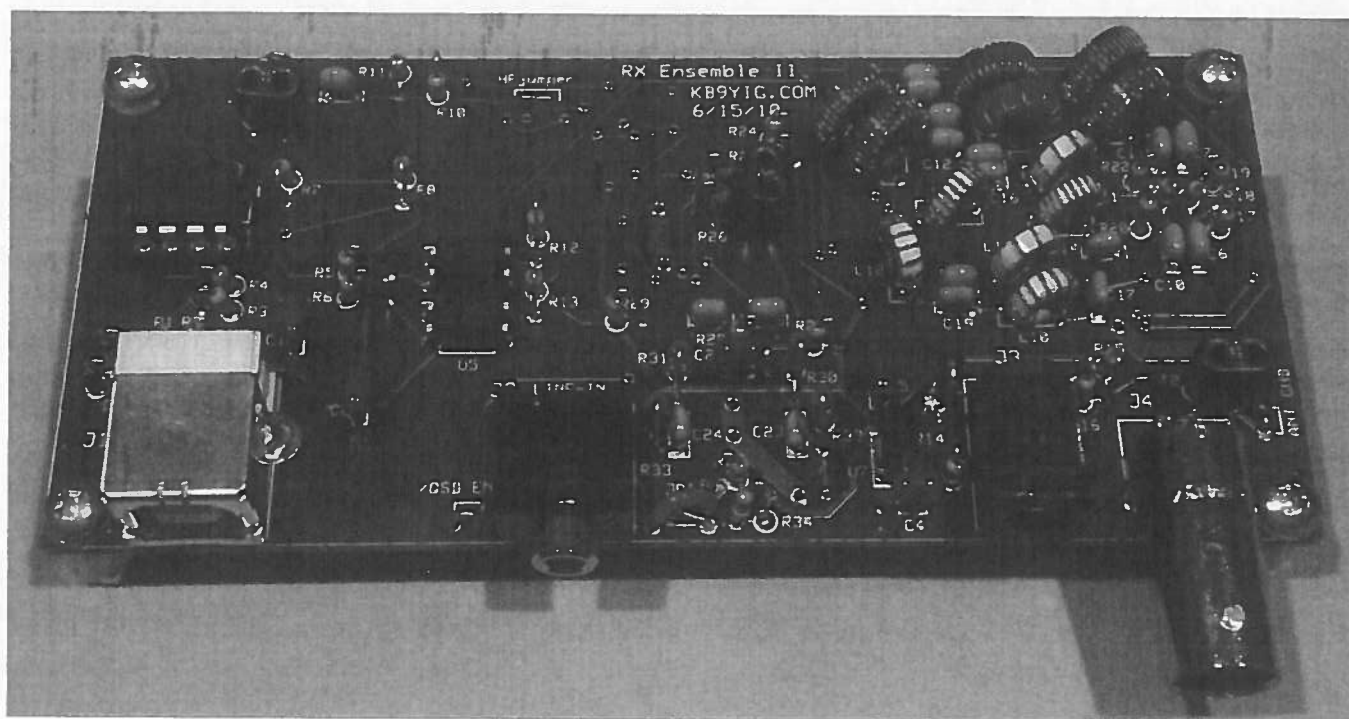

Figure 3 — The Softrock RX Ensemble II Receiver from Five Dash Inc.
- Softrock RX Ensemble II receiver (Figure 3).